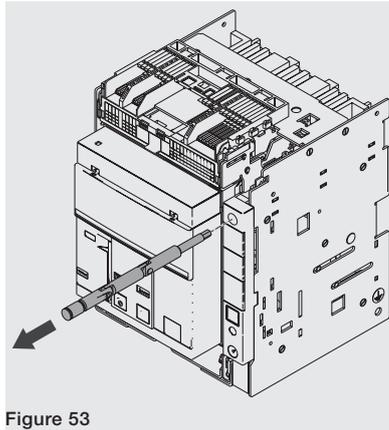

Figure 53
4. Extract the disconnection crank from its housing See Figure 53.